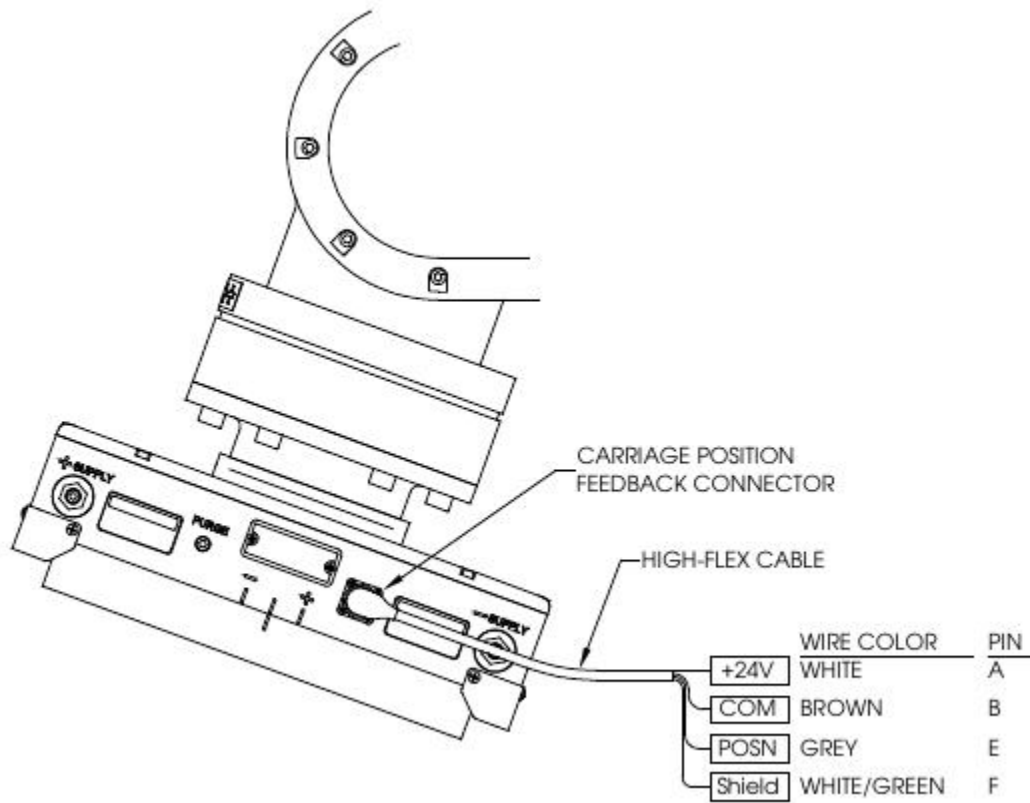

Figure 10: Electrical Connections
2. Attach the High-Flex Cable wires as shown in Figure 10.